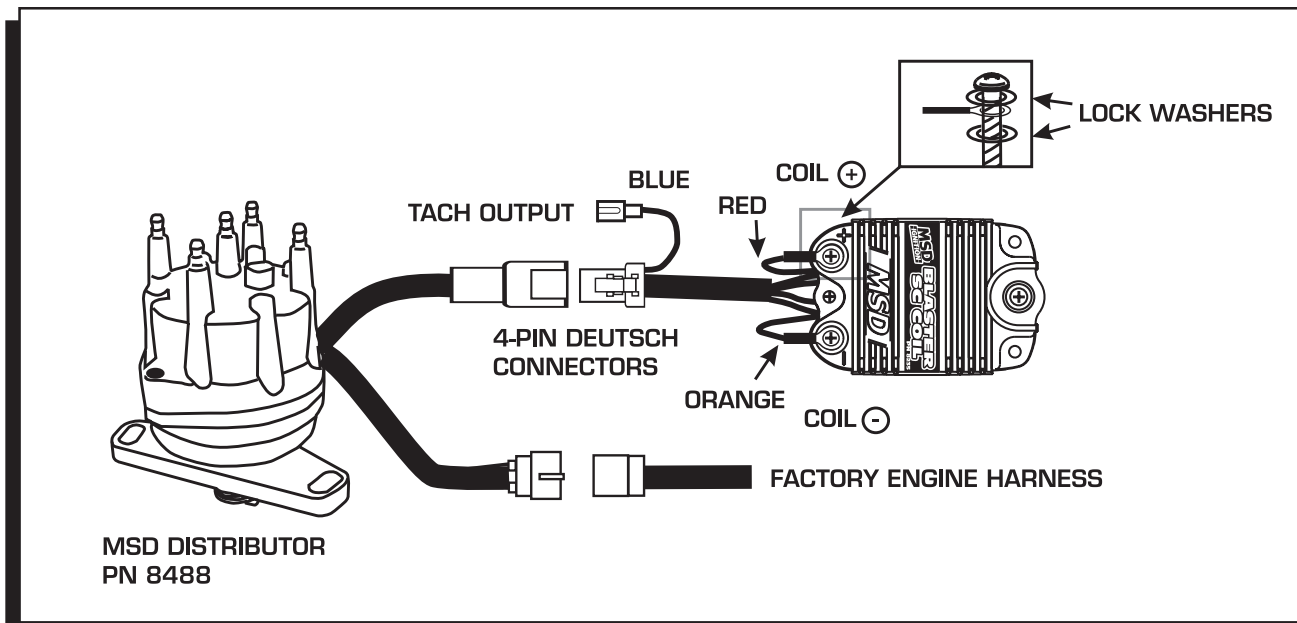

Figure 3 Wiring the Coil and Driver to the Distributor.
**Distributor Connector:** Route the 4-pin Deutsch Connector to the mating connector on the distributor (Figure 3).
**Tachometer Output:** The Blue wire that is routed with the distributor connector provides a 12 volt square wave tachometer output signal. It can be used for aftermarket tachs, rpm switches and other accessories (Figure 3). Factory installed tachs will operate with the MSD system.